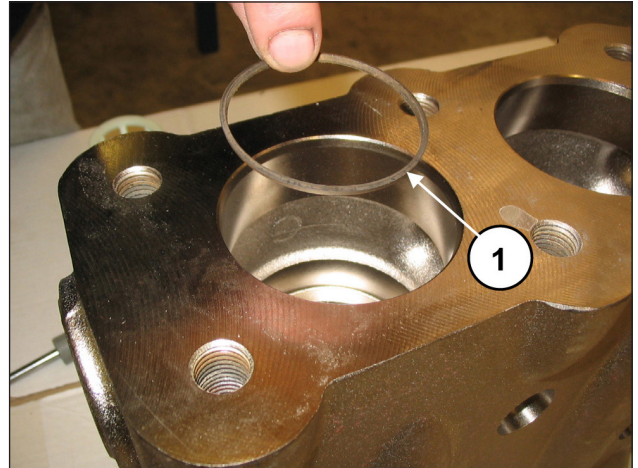

Fig. 92
Insert the anti-extrusion ring, exploded view pos. 4 (pos. ①, Fig. 92).